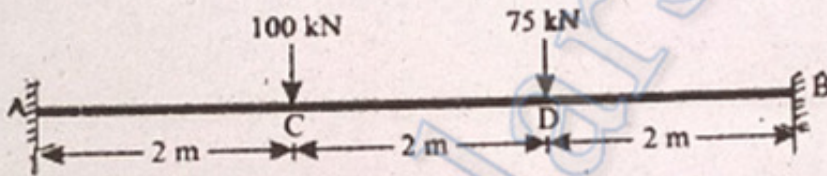

Fig. Q. 14 (a)
14. (a) Find the plastic moment capacity of the beam shown in Fig. Q. 14 (a). EI is constant throughout.